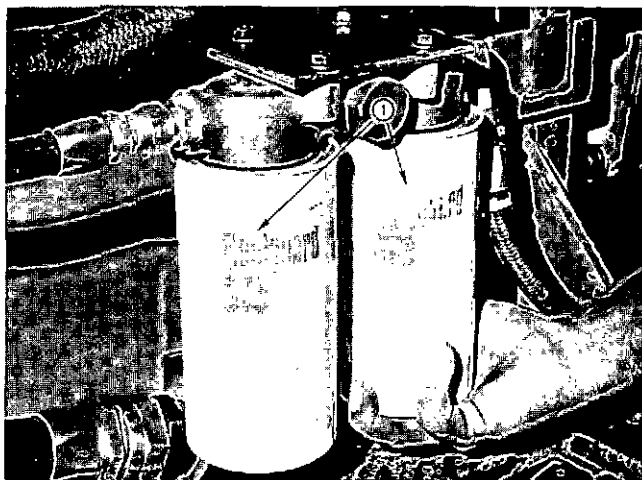

Fig. 5-20, V41925. Removing throw-away type fuel filter
1. Unscrew combination case(s) and element(s) (1); discard. Fig. 5-20.